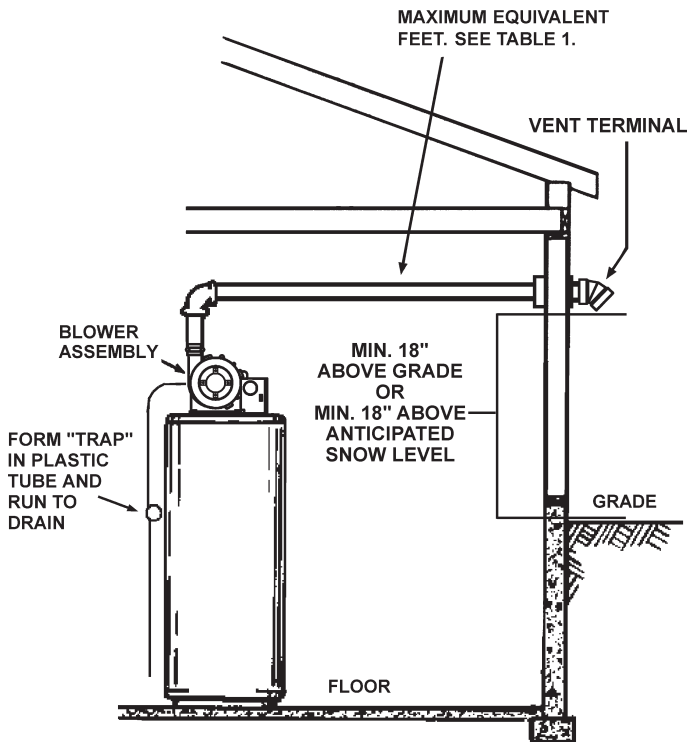

FIGURE 19.
The first step is to determine where the vent pipe will terminate, see Figures 15, 19 and 20. The vent may terminate through the roof as shown in Figure 20 or through a sidewall as shown in Figure 19.
The water heater must be connected to a grounded metal, permanent wiring system; or an equipment grounding conductor must be run with the circuit conductors and connected to the equipment grounding terminal or lead on the water heater, see Figure 19.
1. Vent Termination must extend a minimum of 18 inches (46 cm) above roof or 18 inches (46 cm) above the anticipated snow level to prevent blockage of the vent termination, as shown in Figures 19 and 20.
2. The venting system shall terminate at least four (4) feet (1.2 m) from or one (1) foot (30 cm) above any gable, dormer or other roof structure with building interior access; i.e., vent, window, etc.
3. The venting system shall terminate three (3) feet (91 cm) above any forced air inlet located within ten feet (3.0 m).